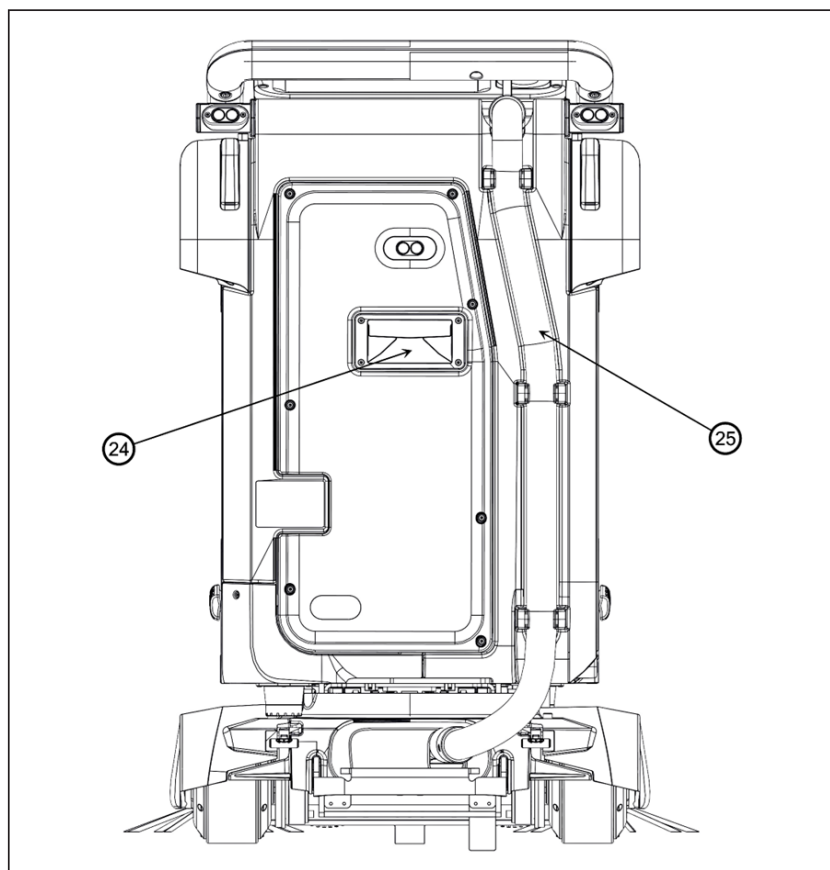

Figure 5
6. Ensure that the Vacuum Hose (25) (Fig. 5) is mounted securely.